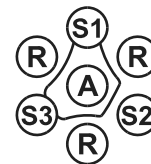

Figure 1.
Place 20 µl of Bluetongue Virus Antigen (A) in the center well and 20 µl of Positive Reference Serum (R) in alternating peripheral wells, leaving three empty wells for samples (Figure 1). Place 20 µl of each sample into empty alternating wells. This arrangement provides a positive control line on each side of the test serum, thus facilitating accurate determination of lines of identity. Fill wells level with the agar surface, leaving no meniscus. Serum or antigen must not run on top of the agar. Allow the plates to set a few minutes before moving to reduce the possibility of spillage. Place the plates in a closed humid chamber and incubate at 23 ± 2°C.
1. **Negative:** The reference lines continue straight into the test sample well without bending (Figure 1, S1, negative sample).
2. **Positive:** Control lines join with and form a continuous line with the line between the test serum and antigen (A) (Figure 1, S2, positive sample).
3. **Weak Positive:** The reference positive control lines bend slightly toward the antigen well (A) and away from the Positive Reference Serum wells (R) but do not form a complete line between antigen (A) and test serum (Figure 1, S3, weak positive sample). These reactions require careful observation and can be easily overlooked. All weak positive samples should be retested before reporting the results.